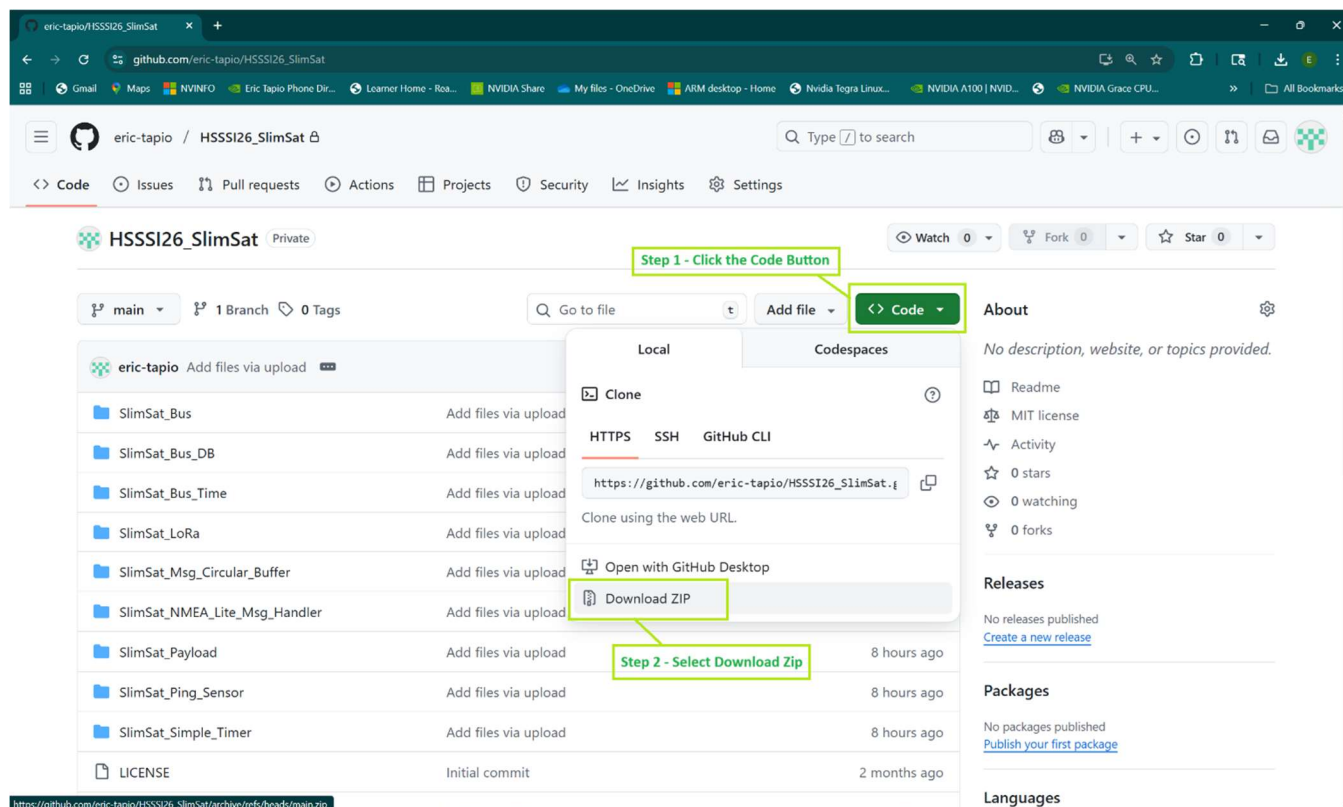

Figure 4 – Download the SlimSat Library Repository ZIP File
1) From the HSSSI26_SlimSat Github repo page, click on the green Code button, as shown below in Figure 4.